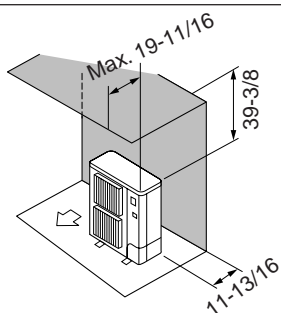

Fig. 2-3
- ② Obstacles at rear and above only (Fig. 2-3)